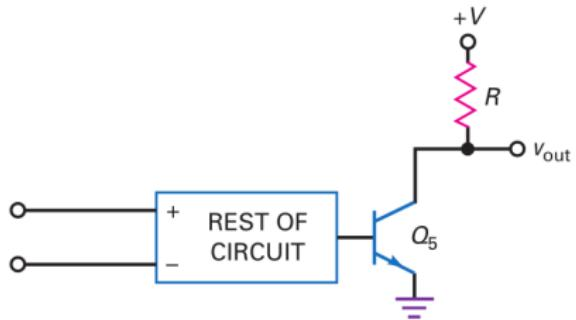

Figure 22: using pullup resistor with open-collector output stage
- ▶ For the output stage to work properly, the user has to connect the open collector to an external resistor and supply voltage, as shown in Fig. 22.
- ▶ The resistor is called a pullup resistor (Fig. 22) because it pulls the output voltage up to the supply voltage when Q_5 is cut off.
- ▶ For this reason, the smaller the pullup resistance in Fig. 22, the faster the output voltage can change. Typically, R is from a couple of hundred to a couple of thousand ohms.